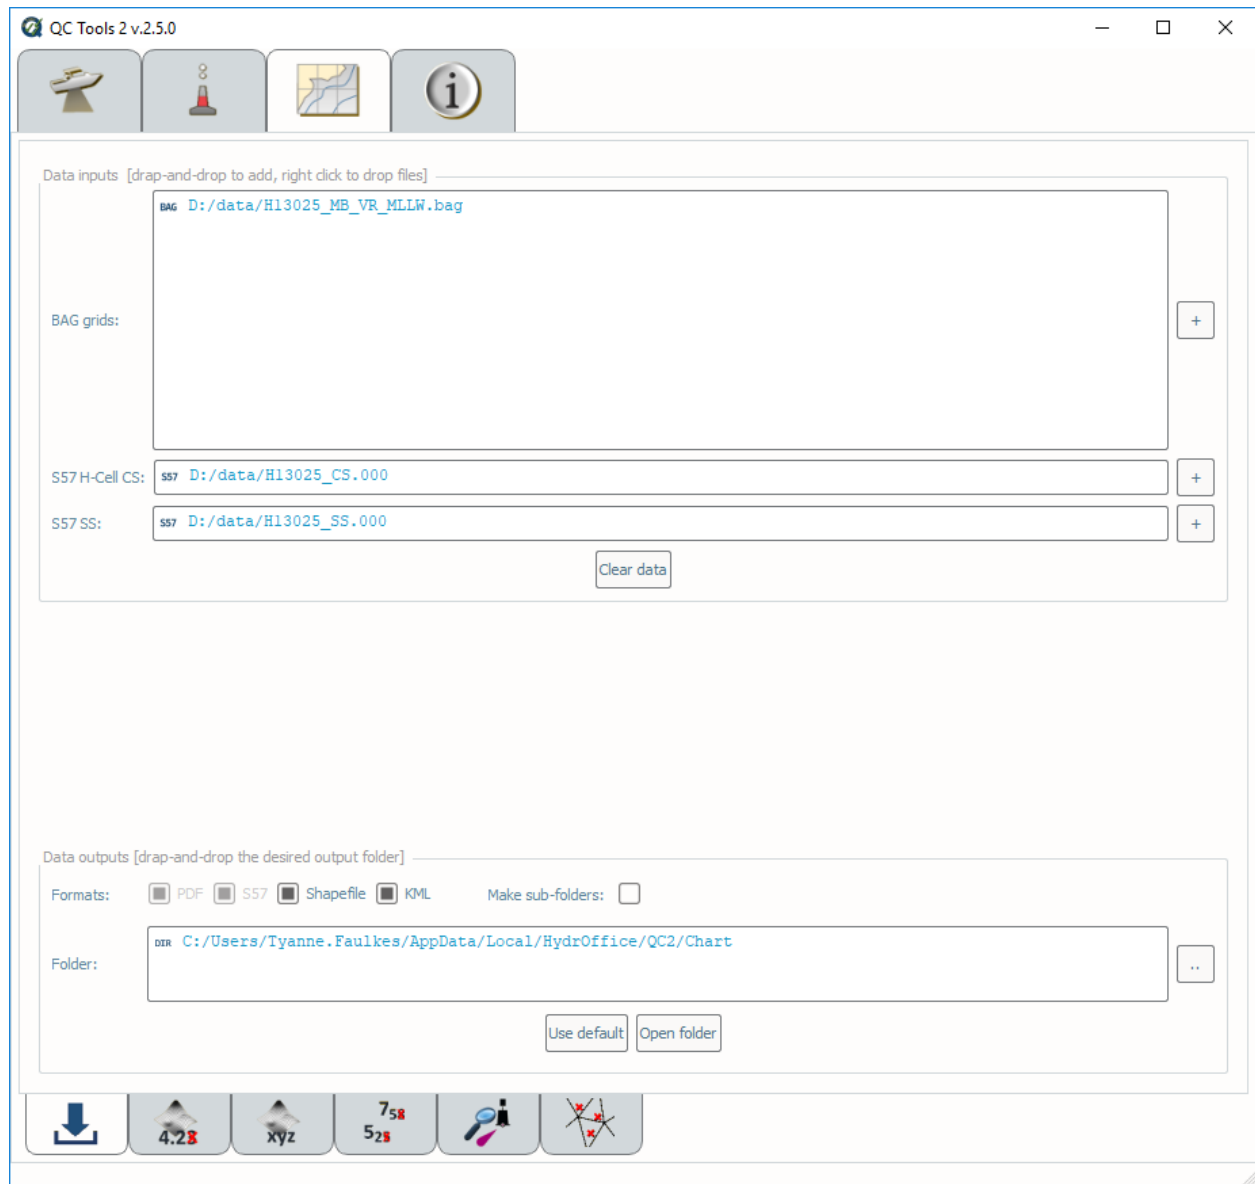

Fig. 2.37: Chart review tab.
- With the addition of a grid, feature file, and survey sounding selections, the **Grid truncate**, **Grid xyz**, **S57 truncate**, **Triangle Rule**, and/or **Scan Features** tabs on the bottom of the interface will become available (Fig. 2.37).